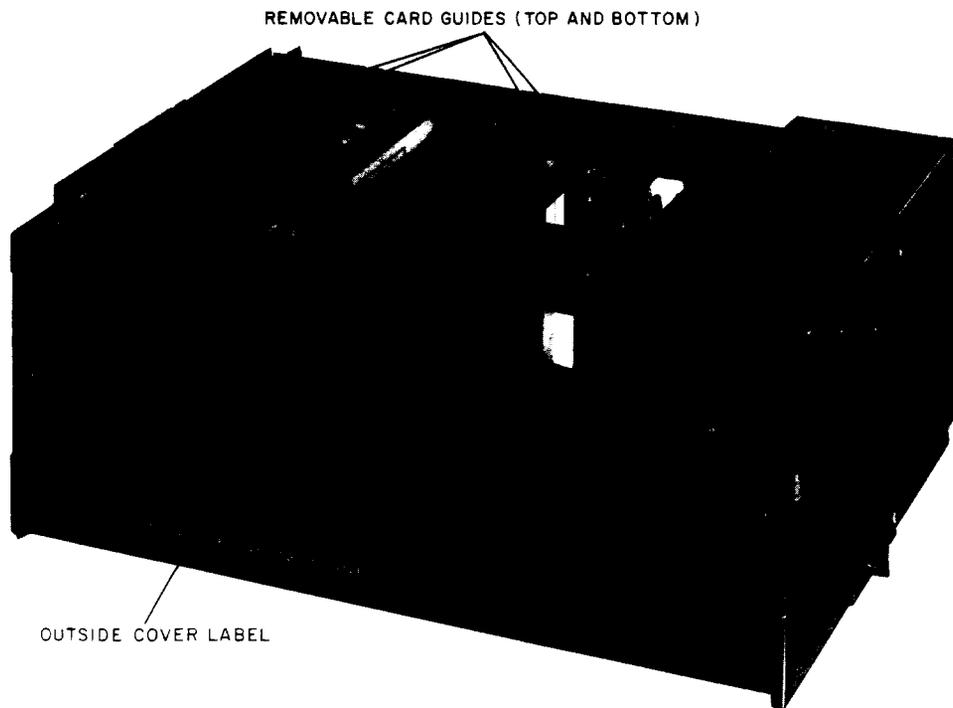

Fig. 2—1A TTLS—Front Cover in Place
- 6 Remove the card guides for the right half of position 1 and the left half of position 2 per Fig. 2.
- 16 Attach the labels supplied with the DAS to the data mounting cover as shown in Fig. 2 and 3.